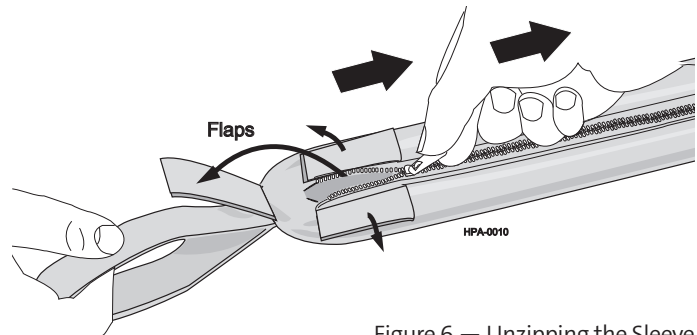

Figure 6 — Unzipping the Sleeve
**Step 2:** Lift the hook-and-loop flaps to expose the zipper pull. While holding the sleeve's pulling loop with one hand, unzip the sleeve (Figure 6).